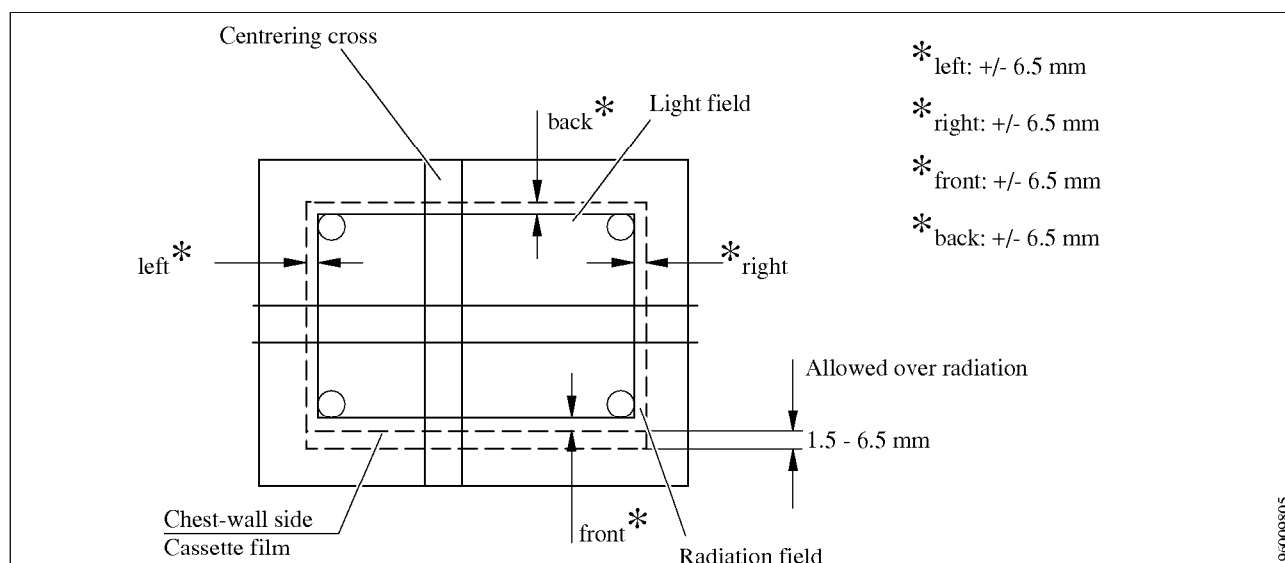

Fig. 2
- Draw the position of the light field by connecting the outer edges, of the coin markings as shown in Fig. 2.